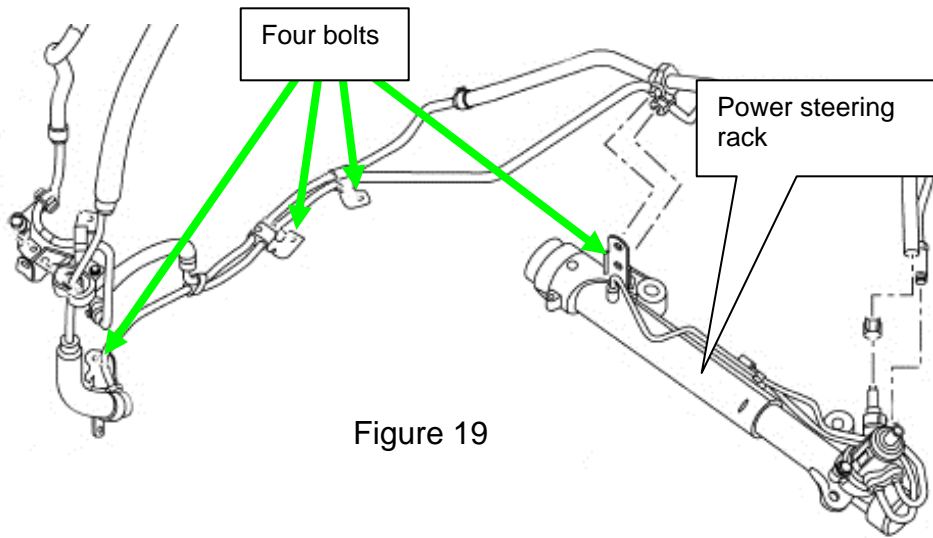

Figure 19
27. Remove the four bolts attaching the power steering High Pressure Piping and Low Pressure Piping (power steering hose and line) to the engine cradle and power steering rack (Figure 19).